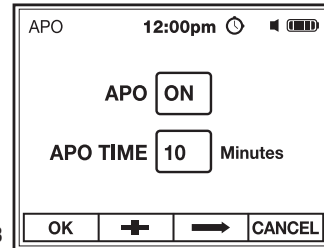

Fig. 23
2. Use the F3 ⇔ soft key to select APO or APO TIME (highlighted in red), (Fig. 23).
3. Use the F2 + soft key to turn APO ON or OFF or adjust APO timer (Max. 30 min), (Fig. 23).
4. Press the F1 OK soft key to save setting and return to Meter Settings (Fig. 23).